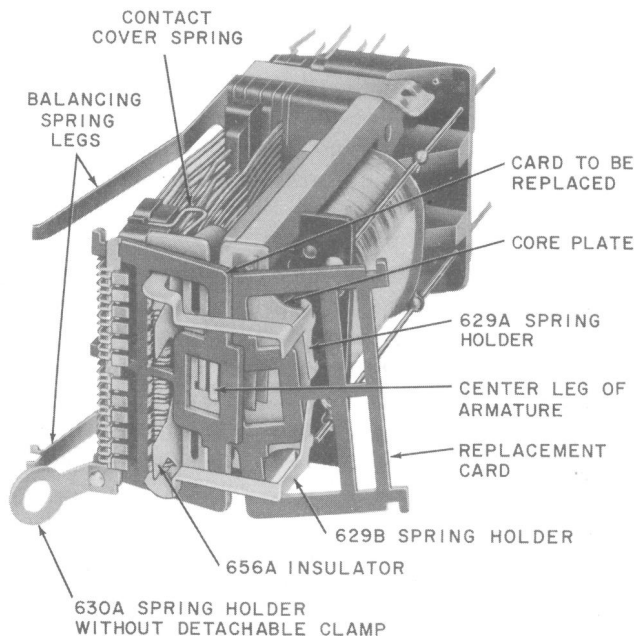

Fig. 4—AL-Type Relay—Card Removal Tools Mounted in Place Except Detachable Clamp of 630A Spring Holder
3.08 **Relays Having Break Contacts and Contact Cover Spring:** On these relays, it is necessary to prevent shorting of the movable break contact springs with the contact cover spring during replacement of the card. For this purpose, one or two 656A insulators are required. When the relay has break contacts in both the 1- to 6- and 7- to 12-position groups, two insulators are required. If only one of these groups has break contacts, only one insulator is required. To insert a 656A insulator, proceed as follows: Hold the tab of the insulator with the offset portion toward the contact cover spring. Insert the insulator between the contact cover spring and the break contact spring combination until the insulator touches the spoolhead. See Fig. 4.
3.09 The 629A spring holder is used to hold the break contact springs in positions 7 to 12 and the 629B holder in positions 1 to 6 during replacement of the card. Each of the tools has six notches to engage the six pairs of two springs with which it may be used. It is important that the pairs of springs are engaged by the proper notches in the tools. Special care is required to engage the break springs in the proper notches where all positions on the relay are not equipped with these springs. These spring holders are shown mounted on the relay in Fig. 4.
in one hand and, with the other hand, push the card to be replaced to the right to open the gap between the fixed and break contacts sufficiently to insert the holder. Insert the notched leg of the holder into the gap with the six notches in line with the six positions (7 to 12) on the relay. Swing the outer end of the holder to the right and clip it on the core plate as shown in Fig. 4. Release the card and make sure that each pair of twin springs is engaged by the proper notch in the tool.
3.11 If there are any break contacts in positions 1 to 6, insert the notched leg of the 629B spring holder through the lower right opening in the new card suspended on the 629A spring holder. If the 629A spring holder was not required, place the new card on the 629B spring holder with the shank of the holder adjacent to the bottom of the card. Then push the card to be replaced to the right to open the gap between the fixed and break contacts sufficiently to insert the holder. Insert the notched leg of the holder between the fixed and break contacts with the six notches in the holder in line with the six positions (1 to 6) on the relay. Swing the outer end of the holder to the right and clip it on the core plate as shown in Fig. 4. Release the card and make sure that each pair of twin springs is engaged by the proper notch in the holder. Swing the new card suspended on the holders as far to the right as possible.
3.12 Referring the Fig. 4, insert the 630A spring holder without the clamp between the fixed and make-contact springs as follows: Pry the card to be replaced from its position on the armature with the KS-6320 orange stick, placing one end of the orange stick over the end of the center leg of the armature and under the adjacent edge of the card. Tilt the card outward so it can be moved over the ends of the armature legs. With the right hand, push the card to the left to open the gap between the fixed and make contacts sufficiently to permit insertion of the spring holder. With the left hand, insert the spring holder through this gap and turn the handle to the left. Release the card. Position the spring holder so that its larger projection is centered between positions 6 and 7 on the relay and the pairs of twin make springs are engaged by the proper notches in the holder.